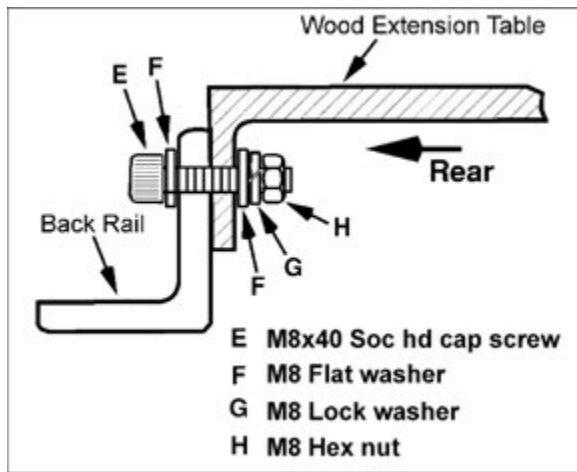

Figure 6-11
See Figure 6-11.
1. Insert six socket hd cap screws (E, Figure 6-11) and flat washers (F) through back rail and wood extension table, and secure with washers and nuts. *Finger-tighten only.*